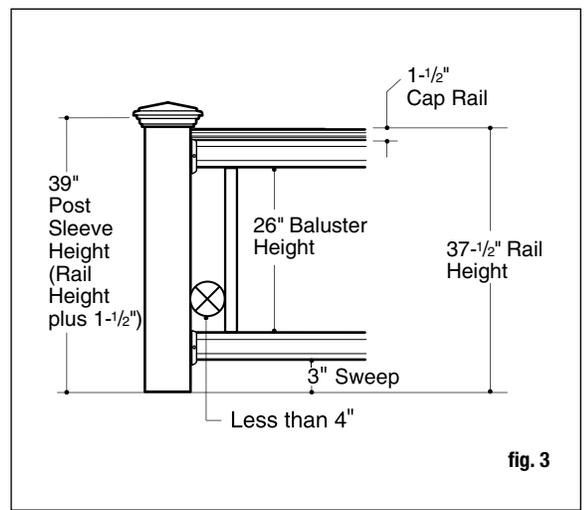

fig. 3
Step 5 Trim 4x4 post sleeves to length. Post sleeves should be a minimum of 1-1/2" longer than the overall railing height. Allow an additional 1-1/2" in your calculation if installing the optional cap rail (fig. 3, following page). Example: For a 36" high railing, trim post sleeve to a minimum of 37-1/2" (39" with cap rail). Post sleeve can be left longer if desired.
Step 6 Measure the distance between installed post sleeves to determine the length of the top and bottom rails (fig. 1). The distance between the post and first baluster should be less than 4" and equal on both ends (fig. 3, following page). Remove an additional 1/4" on both ends (1/2" overall) for the bracket to fit between the rail and post. Trim the top and bottom rails to length.
Step 8 Position the bottom rail between posts and center. Note: Check building code requirements for maximum spacing between deck surface and bottom of rail (sweep). Spacing of 3" is recommended, but can be more or less if codes allow (fig. 3). Mark the location of the bracket on both posts. Remove rail. Mark the screw locations and pre-drill through the post sleeve only, using a 1/4" drill bit. Attach each bracket to the post with two 2" screws.
Step 10 Figure 3 illustrates how a 36"-high railing might be sized. Note: Use a fixture to ensure a consistent length (+/- 1/16").
Step 3 Complete stair tread installation prior to installing post sleeves. Trim 4x4 post sleeves to length. If using post caps, post sleeves should be a minimum of 1-1/2" longer than the overall railing height (fig. 3). Allow an additional 1-1/2" in your calculation if installing the optional cap rail. Example: For a 36" high railing, trim post sleeve to a minimum of 37-1/2" (39" with cap rail plus the height of the riser. If your railing height is 36", add 1-1/2" plus 7" for riser). Post sleeve can be left longer if desired.